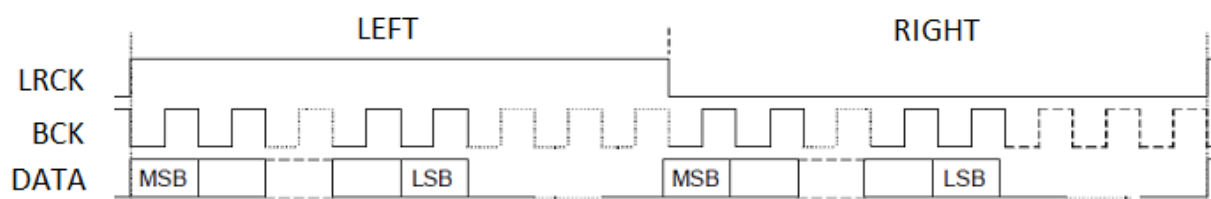

Figure 22. SAI configuration – Left Justified
- Left justified (Figure 22) with a value of 0